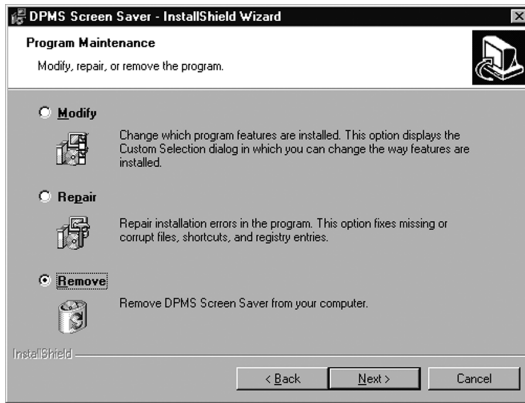

Figure 38
3. Select the radio button next to “Remove” on the Program Maintenance screen of the Wizard and click “Next” (figure 38).